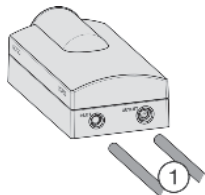

Fig. 39
- ▶ On the thin hose measure the insertion depth (E) of 21/32" (17 mm) and make a mark.
- ▶ On the thick hose measure the insertion depth (E) of 25/32" (20 mm) and make a mark.
- ▶ Insert the hoses *Fig. 39 (1)* into the water filter module as far as they will go (i.e. to the mark you made) past the point of resistance.